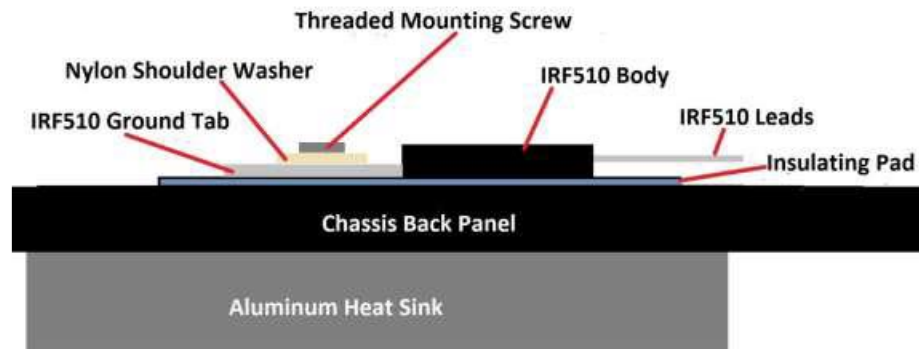

Figure 8-7. Mounting the IRF510 to the heat sink (side view).
□ Mount the IRF510 transistors to the heat sink by first laying down the grey heat sink pad, the transistor, and place the small, clear plastic shoulder in the hole in the transistor tab, and thread the mounting screw into the heat sink. Tighten the screw, but don't over-tighten to the point of stripping the threads. Handle the shoulder washer carefully as they are easy to lose. Note: The body of the shoulder washer may not fit readily into the hole in the transistor tab, but if the screw is installed and tightened, it will draw the shoulder washer down into the hole. See Figure 8-7.
にねじ込みます。ネジを締めますが、ねじ山がつぶれるほど締めすぎないようにしてください。肩付きワッシャーは紛失しやすいので、慎重に取り扱ってください。注: 肩付きワッシャーの本体はトランジスタタブの穴に簡単には収まらない場合がありますが、ネジを取り付けて締めると、肩付きワッシャーが穴に引き込まれます。図 8-7 を参照してください。